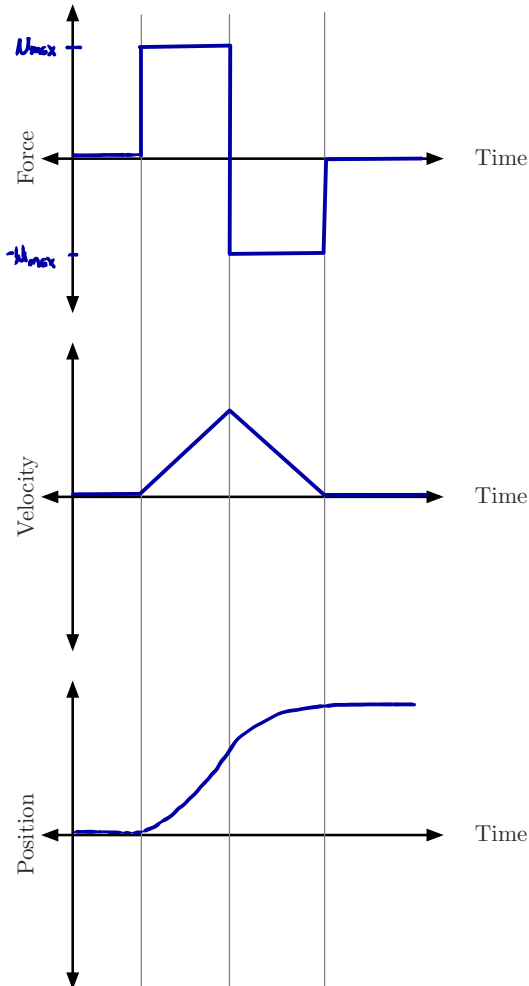

Figure 4.2: Axes for Question 4(a) and 4(b)
a. What force, $f(t)$, would create a time-optimal rest-to-rest move of this simplified satellite model? Sketch this force command on the axes provided below in Figure 4.2.
b. What would be the velocity and position responses to this force input? Sketch them on the axes in Figure 4.2.